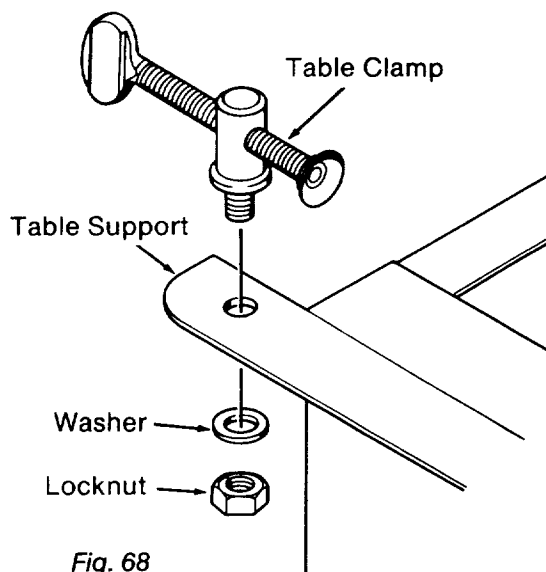

Fig. 68
1. Place the *table clamp* in the hole provided at the rear of the right table support. (Figure 68)
2. Put a *washer* and *locknut* on the *table clamp* and tighten using a $1/2$ inch wrench or socket. (Figure 68)
3. Repeat steps 1 and 2 with the left table clamp. (Figure 68)